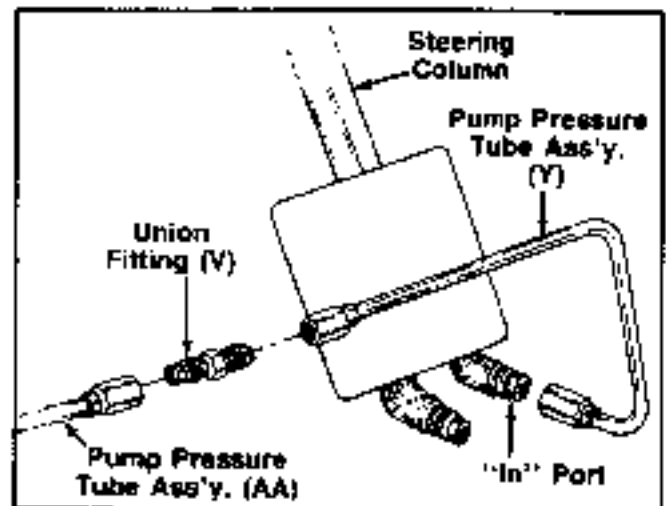

FIGURE 23.
16. Assemble the (short end) pump pressure tube assembly (Y) to the 90° elbow on the "In" part on the bottom of the steering column loosely. Do not tighten at this time. See figure 23.
17. Assemble the other end of pump pressure tube assembly (Y) to the union fitting (V) and tighten. See figure 23.